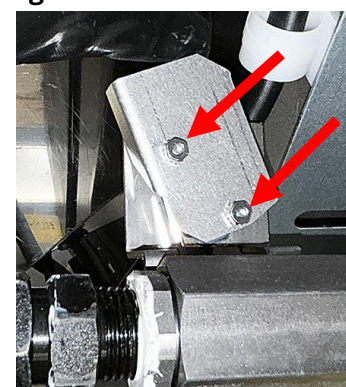

Figure 14
21. Remove the two (2) nuts attaching the return switch cover under the **SECOND (2nd) vat**. The switch is located under the rear side of the vat attached to the return valve (see Figure 14).